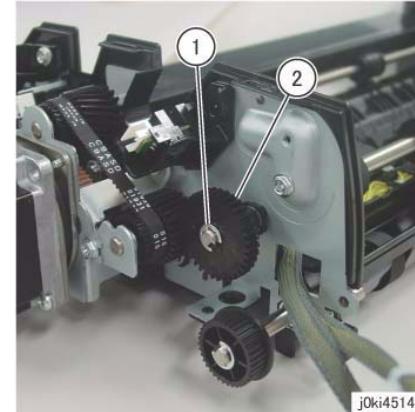

Figure 4 Remove the gear
14. Remove the gear at the rear. (Figure 4)